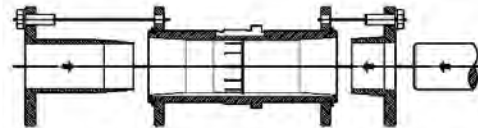

Figure 6 – Short Shaft Bushing and Output Hub Assembly
2. The long bushing is designed to be installed from the side of the reducer opposite the driven equipment as shown in Figure 6. The long bushing when properly installed is designed to capture the end of the customer shaft that does not extend through the reducer. Normally the reducer would be mounted such that the input shaft extends from the side of the reducer opposite the driven equipment however the reducer design allows installation of the reducer to be mounted in the opposite direction.